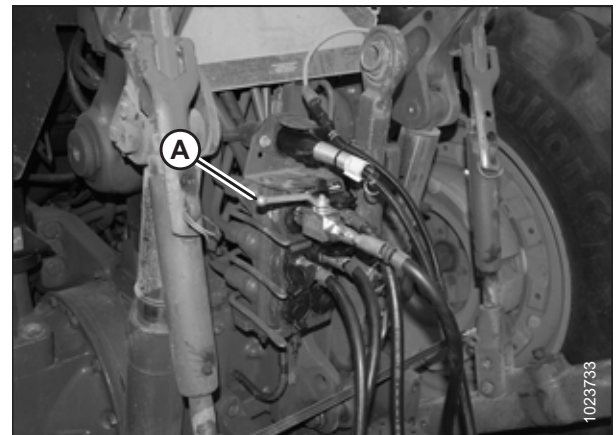
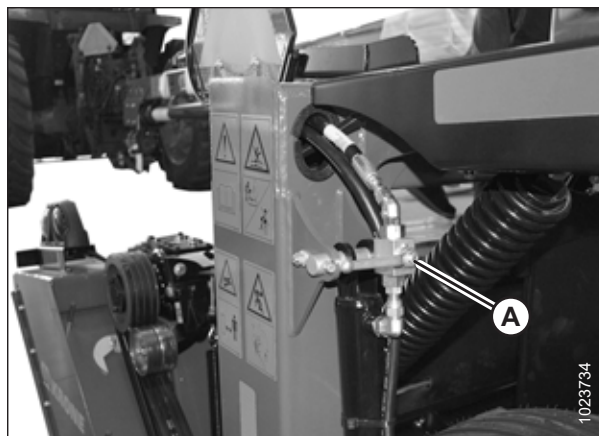

Figure 3.85: Steering Lock-Out Valve
Figure 3.86: Lift Cylinder Lock-Out Valve
10. Close the steering lock-out valve and the two lift cylinder lock-out valves by turning the handles to the closed position. For instructions, refer to Figure 3.85, page 75 and Figure 3.86, page 76.